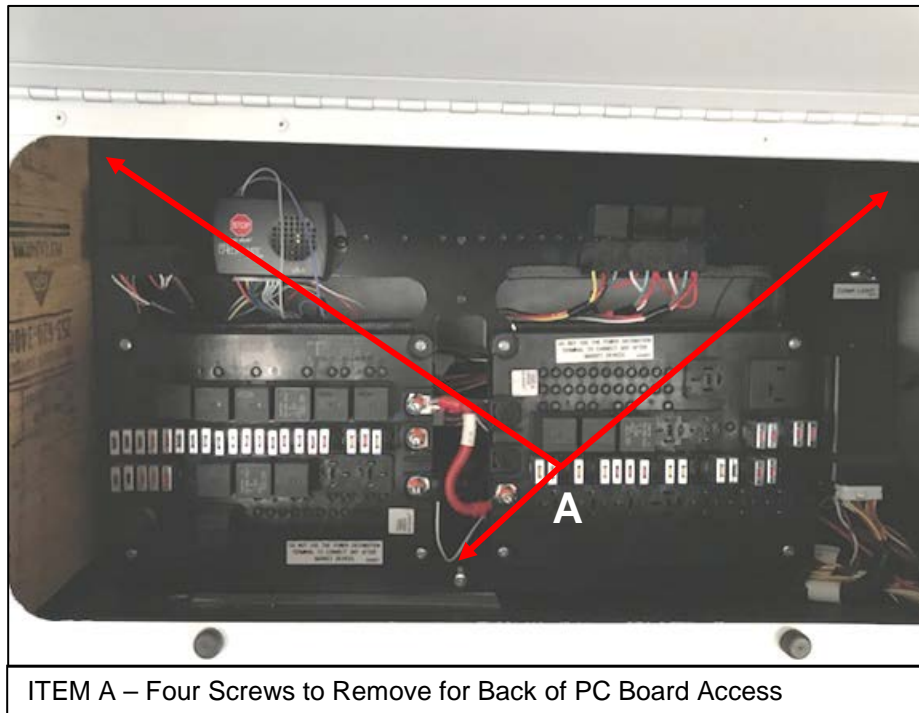

Figure 8: View of PC Boards
4. Open the PC circuit board cabinet (above the driver's seat) and prop the door open. See **Figure 8**.
5. Remove the three screws indicated in **Figure 8** and lay the PC board down.